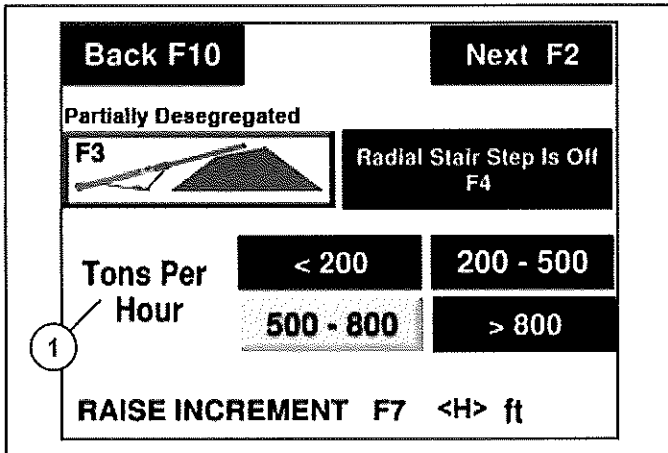

Figure 60
4. Select your tons per hour (Item 1) (Figure 60) by pressing the corresponding button on the screen.